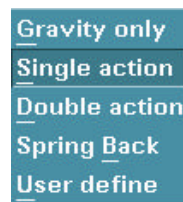

Figure 9.1.3 Draw Type
- The user can select a draw type by selecting the button below DRAW TYPE, see Figure 9.1.3.